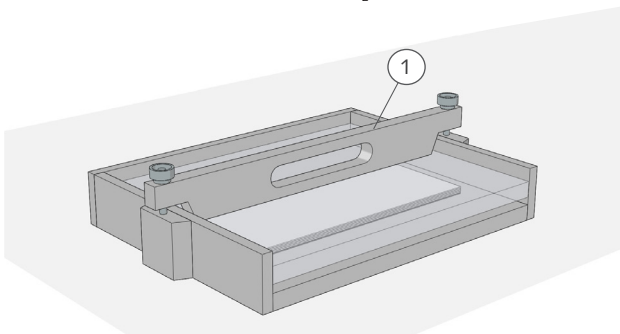

Fig. 1a. BEO Dry Blotter (1: lid)
6.2 Protein Transfer (see Figure 1a and b):
- Place the BEO Dry Blotter on plane working space and remove the cover (Fig. 1a (1)) of the BEO Dry Blotter.